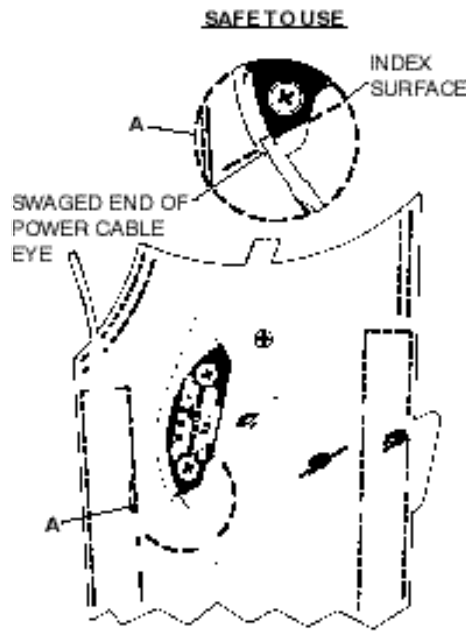

FIGURE 3.
- (1) Refer to Figure 3. If the power cable assembly is correctly routed and installed, and has not been damaged, the end of the eye should not extend past the index surface.